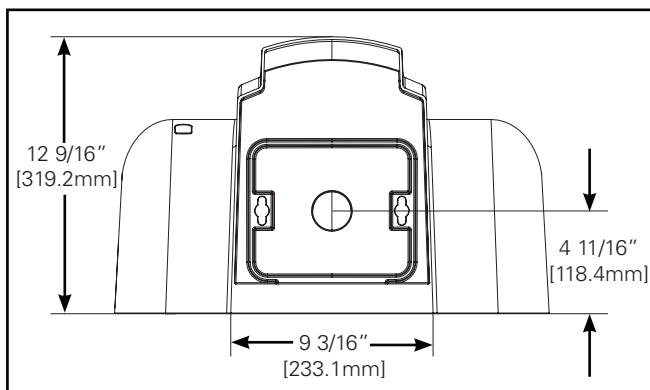

Figure 4.
1. The standard mounting kit may be mounted to any standard, embedded, 4" junction box. It is not for use with a surface mounted junction box. For orientation of fixture to the junction box. (Figure 4.)